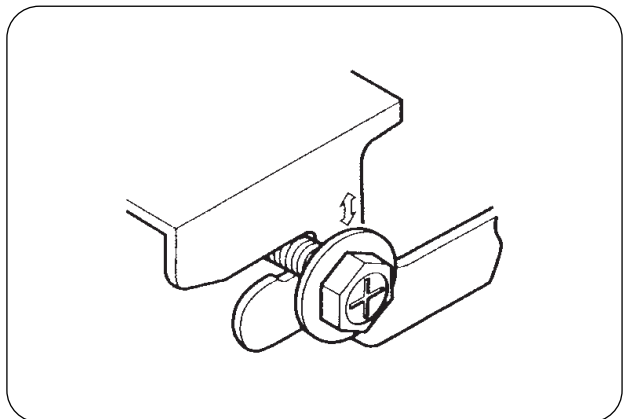

Fig.7
- (5) Lift the unit and slide forward unit the dent (Refer it Fig.7).